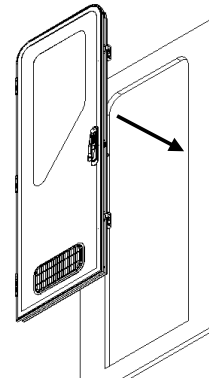

Fig. 3
3) Position the door frame into the caravan cut-out and locate in desired position .as in Fig.3.